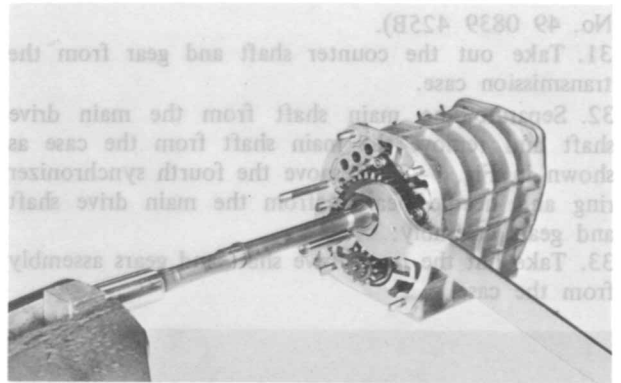

Fig. 7-4 Removing lock nut
20. Straighten the tab of the lock washer, hold the rear end of the main shaft with the **holder** (Part No. 49 0259 440) as shown in Fig. 7-4 and loosen the main shaft lock nut. Slide the reverse gear off the rear of the main shaft, and remove the key.